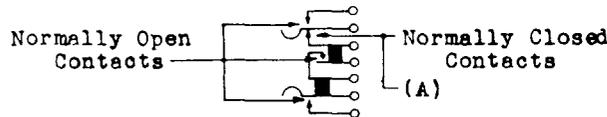

Fig. 6
(a) - Fig. 6 (A) - Normal Contact Sequence - Break-Make Combinations Unless otherwise specified, the normally closed contacts operated directly by a plunger spring of an individual combination shall break before the normally open contacts of the same combination directly associated with that plunger spring make by: